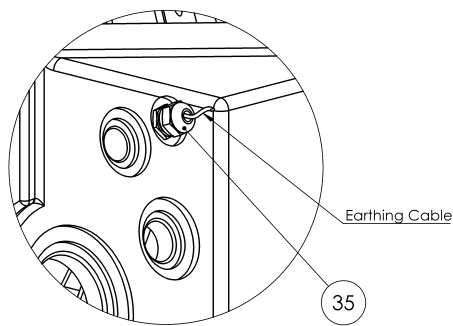

Fig. 32
- Lead the cable through the cable gland (35) in the lower housing and then out of the bearing (fig. 32).